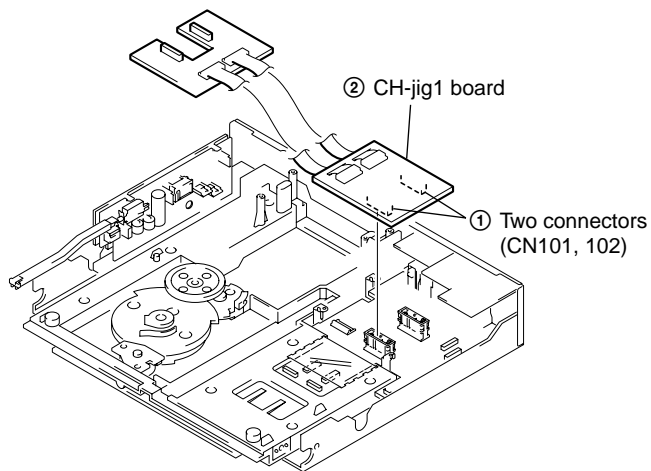

Fig. 2
- 8) Set the CH-jig1 board as shown in Fig. 2.